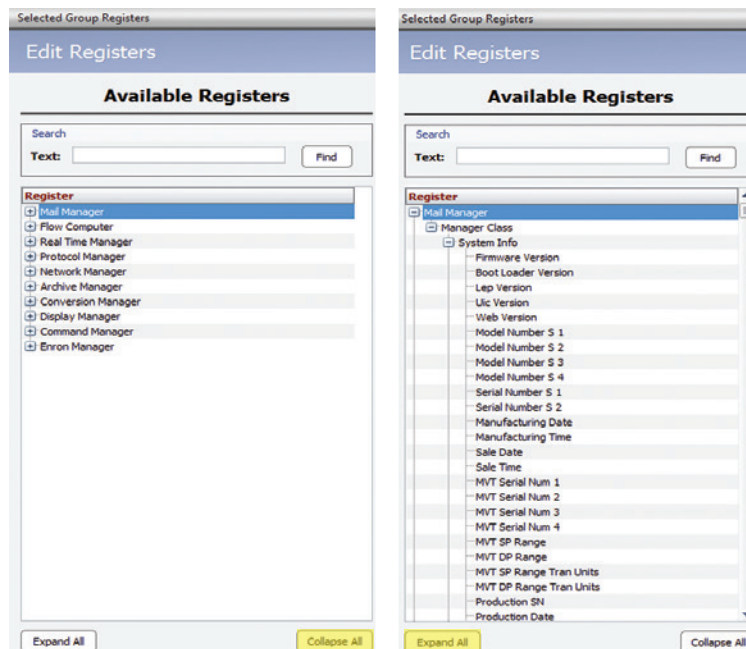

Figure 4.11—“Available Registers” section of Edit Registers screen, collapsed view (left) and expanded view (right)
- By default, the “Available Registers” view shows only the main register categories. To view all available registers, click the **Expand All** button, shown on the right in Figure 4.11, page 21.
- Click the **Collapse All** button to view only the main register categories, as shown on the left in Figure 4.11, page 21.